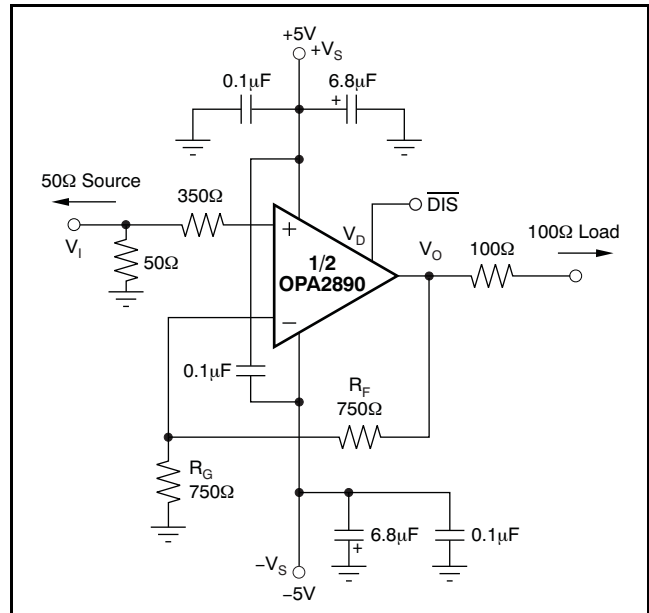
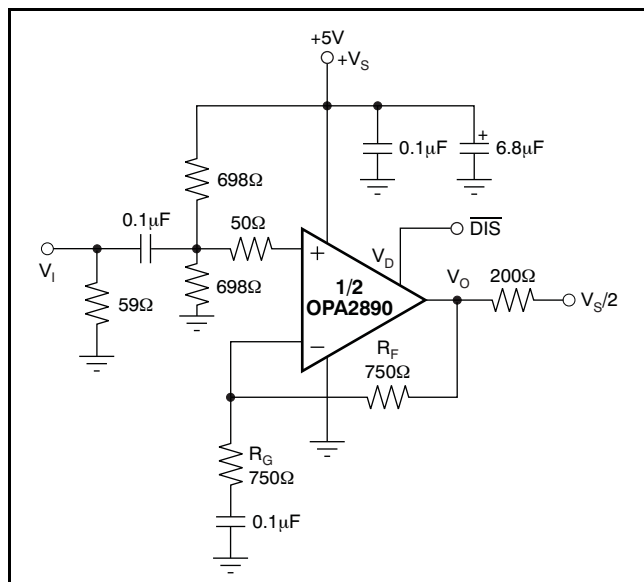
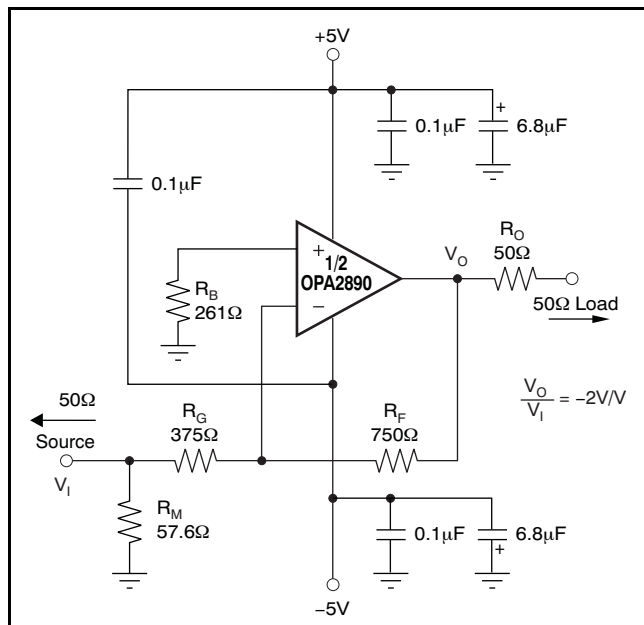

Figure 49. DC-Coupled, G = +2V/V, Bipolar Supply, Specification and Test Circuit
Figure 50. DC-Coupled, $G = +2V/V$, Single-Supply, Specification and Test Circuit
Figure 59. Gain of $-2V/V$ Example Circuit
At $T_A = +25^\circ C$, $G = +2V/V$, $R_F = 750\Omega$, and $R_L = 200\Omega$, unless otherwise noted. See Figure 49.
At $T_A = +25^\circ\text{C}$, $G = +2V/V$, $R_F = 750\Omega$, and $R_L = 200\Omega$, unless otherwise noted. See Figure 49.
Figure 49 shows the DC-coupled, gain of +2V/V, dual power-supply circuit configuration used as the basis of the ±5V Electrical Characteristics and Typical Characteristics. This illustration is for one channel; the other channel is connected similarly. For test purposes, the input impedance is set to 50Ω with a resistor to ground and the output impedance is set to 200Ω. Voltage swings reported in the Electrical Characteristics are taken directly at the input and output pins, while output powers (dBm) are at the matched 50Ω load. For the circuit of Figure 49, the total effective load is 200Ω || 1.5kΩ. The disable control line (MSOP-10 package only) is typically left open for normal amplifier operation. Two optional components are included in Figure 49. First, an additional resistor (350Ω) is included in series with the noninverting input. Combined with the 25Ω dc source resistance looking back towards the signal generator, this resistor gives an input bias current cancelling resistance that matches the 750Ω source resistance seen at the inverting input (see the DC Accuracy and Offset Control section). In addition to the usual power-supply decoupling capacitors to ground, a 0.1μF capacitor is also included between the two power-supply pins. In practical printed circuit board (PCB) layouts, this optional capacitor typically improves the 2nd-harmonic distortion performance by 3dB to 6dB.
Figure 50 illustrates the ac-coupled, gain of +2V/V, single-supply circuit configuration used as the basis of the +5V Electrical Characteristics and Typical Characteristics. Though not a rail-to-rail design, the OPA2890 requires minimal input and output voltage headroom compared to other very wideband voltage-feedback op amps. It delivers a 3V_{PP} output swing on a single +5V supply with greater than 80MHz bandwidth. The key requirement of broadband single-supply operation is to maintain input and output signal swings within the usable voltage ranges at both the input and the output. The circuit of Figure 50 establishes an input midpoint bias using a simple resistive divider from the +5V supply (two 698Ω resistors). Separate bias networks would be required at each input. The input signal is then ac-coupled into the midpoint voltage bias. The input voltage can swing to within 1.5V of either supply pin, giving a 2V_{PP} input signal range centered between the supply pins. The input impedance matching resistor (59Ω) used for testing is adjusted to give a 50Ω input load when the parallel combination of the biasing divider network is included.
A good rule of thumb is to target the parallel combination of R_F and R_G (see Figure 49) to be less than approximately 400Ω. The combined impedance $R_F \parallel R_G$ interacts with the inverting input capacitance, placing an additional pole in the feedback network and thus, a zero in the forward response. Assuming a 2pF total parasitic on the inverting node, holding $R_F \parallel R_G < 400\Omega$ keeps this pole above 160MHz. By itself, this constraint implies that the feedback resistor R_F can increase to several kΩ at high gains. This increase in resistor size is acceptable as long as the pole formed by R_F and any parasitic capacitance appearing in parallel is kept out of the frequency range of interest.
Voltage-feedback op amps exhibit decreasing closed-loop bandwidth as the signal gain increases. In theory, this relationship is described by the Gain Bandwidth Product (GBP) shown in the Electrical Characteristics. Ideally, dividing GBP by the noninverting signal gain (also called the Noise Gain, or NG) predicts the closed-loop bandwidth. In practice, this principle only holds true when the phase margin approaches 90°, as it does in high gain configurations. At low gains (increased feedback factors), most amplifiers exhibit a more complex response with lower phase margin. The OPA2890 is compensated to give a slightly peaked response in a noninverting gain of 2V/V (see Figure 49). This compensation results in a typical gain of +2V/V bandwidth of 100MHz, far exceeding that predicted by dividing the 60MHz GBP by 2. Increasing the gain causes the phase margin to approach 90° and the
The frequency response in a gain of +2V/V may be modified to achieve exceptional flatness simply by increasing the noise gain to 2.5V/V. One way to modify the response without affecting the +2V/V signal gain, is to add an 1.5kΩ resistor across the two inputs, as illustrated in the circuit of Figure 49. A similar technique may be used to reduce peaking in unity-gain (voltage follower) applications. For example, by using a 750Ω feedback resistor along with a 750Ω resistor across the two op amp inputs, the voltage follower response is similar to the gain of +2V/V response of Figure 50. Reducing the value of the resistor across the op amp inputs further limits the frequency response due to increased noise gain.
The OPA2890 is a general-purpose, wideband, voltage-feedback op amp; therefore, all of the familiar op amp application circuits are available to the designer. Inverting operation is one of the more common requirements and offers several performance benefits. See Figure 59 for a typical inverting configuration where the I/O impedances and signal gain from Figure 49 are retained in an inverting circuit configuration.
The second major consideration, touched on in the previous paragraph, is that the signal source impedance becomes part of the noise gain equation and influences the bandwidth. For the example in Figure 59, the R_M value combined in parallel with the external 50Ω source impedance yields an effective driving impedance of $50\Omega \parallel 57.6\Omega = 26.7\Omega$. This impedance is added in series with R_G for calculating the noise gain (NG). The resultant NG is 2.86V/V for Figure 59, as opposed to only 2V/V if R_M could be eliminated as discussed above. Therefore, the bandwidth is slightly lower for the gain of $-2V/V$ circuit of Figure 59 than for the gain of $+2V/V$ circuit of Figure 49.
signal reaches very high frequency or power levels, the 2nd harmonic dominates the distortion with a negligible 3rd harmonic component. Focusing then on the 2nd harmonic, increasing the load impedance improves distortion directly. Remember that the total load includes the feedback network; in the noninverting configuration (see Figure 49), this value is the sum of $R_F + R_G$, while in the inverting configuration it is only R_F . Also, providing an additional supply-decoupling capacitor (0.1μF) between the supply pins (for bipolar operation) improves the 2nd-order distortion slightly (3dB to 6dB). Operating differentially also lowers 2nd-harmonic distortion terms (see the plot on the front page).
Evaluating these two equations for the OPA2890 circuit and component values (see Figure 49) gives a total output spot noise voltage of 17.5nV/√Hz and a total equivalent input spot noise voltage of 8.7nV/√Hz. This result includes the noise added by the bias current cancellation resistor (350Ω) on the noninverting input. This total input-referred spot noise voltage is only slightly higher than the 8nV/√Hz specification for the op amp voltage noise alone. This result is the case as long as the impedances appearing at each op amp input are limited to the previously recommend maximum value of 400Ω. Keeping both ($R_F \parallel R_G$) and the noninverting input source impedance less than 400Ω satisfies both noise and frequency response flatness considerations. Because the resistor-induced noise is relatively negligible, additional capacitive decoupling across the bias current cancellation resistor (R_B) for the inverting op amp configuration of Figure 59 is not required.
The balanced input stage of a wideband voltage-feedback op amp allows good output dc accuracy in a wide variety of applications. The power-supply current trim for the OPA2890 gives even tighter control than comparable amplifiers. Although the high-speed input stage does require relatively high input bias current (typically 5µA out of each input terminal), the close matching between them may be used to reduce the output dc error caused by this current. The total output offset voltage may be considerably reduced by matching the dc source resistances appearing at the two inputs. This matching reduces the output dc error resulting from the input bias currents to the offset current times the feedback resistor. Evaluating the configuration of Figure 49, and using worst-case +25°C input offset voltage and current specifications, gives a worst-case output offset voltage equal to: